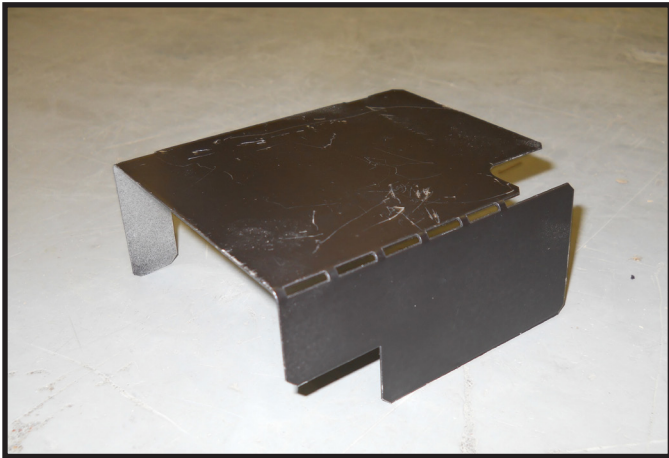

Figure 41. Heat Shield Bends
- Remove black sheet metal plate from manual bag. Bend (3) tabs approximately 90 degrees on plate to form shield as shown in Figure 41.